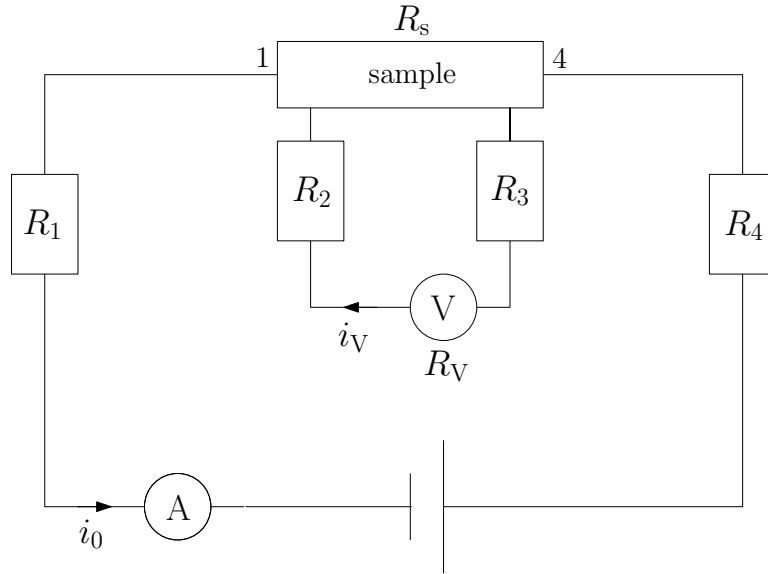

Figure 5: A schematic of the electronic circuit
**Problem:** Have a look at figure 5, where a schematic circuit diagram is shown. The resistances  $R_1, R_2, R_3, R_4$  represent the cable and contact resistances in the circuit,  $R_s$  is the sample resistance and  $R_V$  is the internal resistance of the voltmeter, which is very large. With  $U$  being the voltage measured by the voltmeter, under which conditions do you find  $U \approx R_s i_0$ ? (*Hint: The goal is to find conditions under which the cable and contact resistances can be neglected when measuring the voltage and calculating the sample resistance from it.*)
- Connect the sample as shown on Fig. 5, and check the wiring with your TA before continuing.